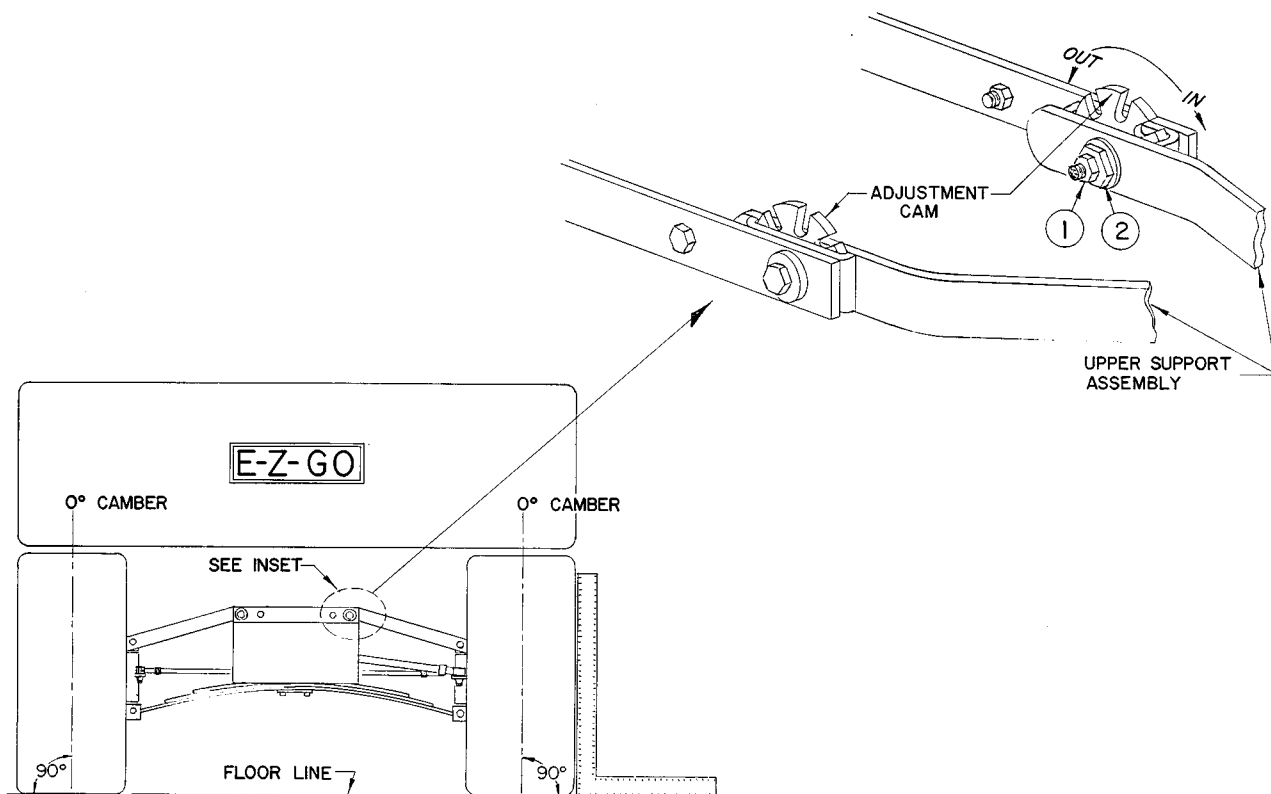

FIG. 3 E CAMBER ADJUSTMENT
#### Four Wheel Car: (Fig. 3 E and 4 E)
#### Camber Adjustment: (Fig. 3 E)
Check the camber setting of each wheel with a carpenters square as indicated by Fig. 3 E. (For a more accurate method of checking camber use an automotive type Caster-Camber gage.) If camber is not zero, loosen nut (1) and bearing nut (2) at two adjustment cam connections of upper support arm. **NOTE:** Loosen bearing nut (2) only as required to allow cam to move. Insert a heavy screw driver or thin point drift punch into cam slot and tap with a hammer to rotate cam. Rotate cam inboard to move top of wheel out, outboard to move top of wheel in. Retighten nut (2) and torque to 35-40 Ft. lbs., tighten nut (1). Repeat procedure for other wheel.